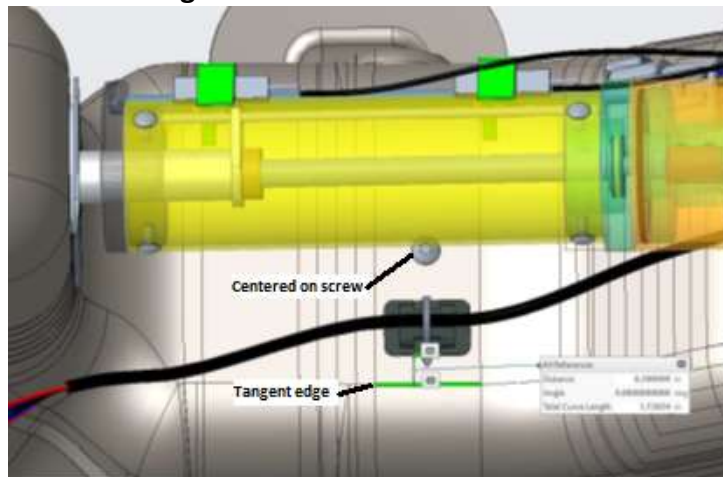

Figure 15. NLG retrofit Tie mount block
NOTE: If additional slack for harness is needed, it is permissible to also relocate the zip- tie shown in **Figure 15**.
21. Install tie mount on the NLG box. Center the mount with screw and about 0.400 inch upwards from tangent edge as shown in **Figure 15** below.